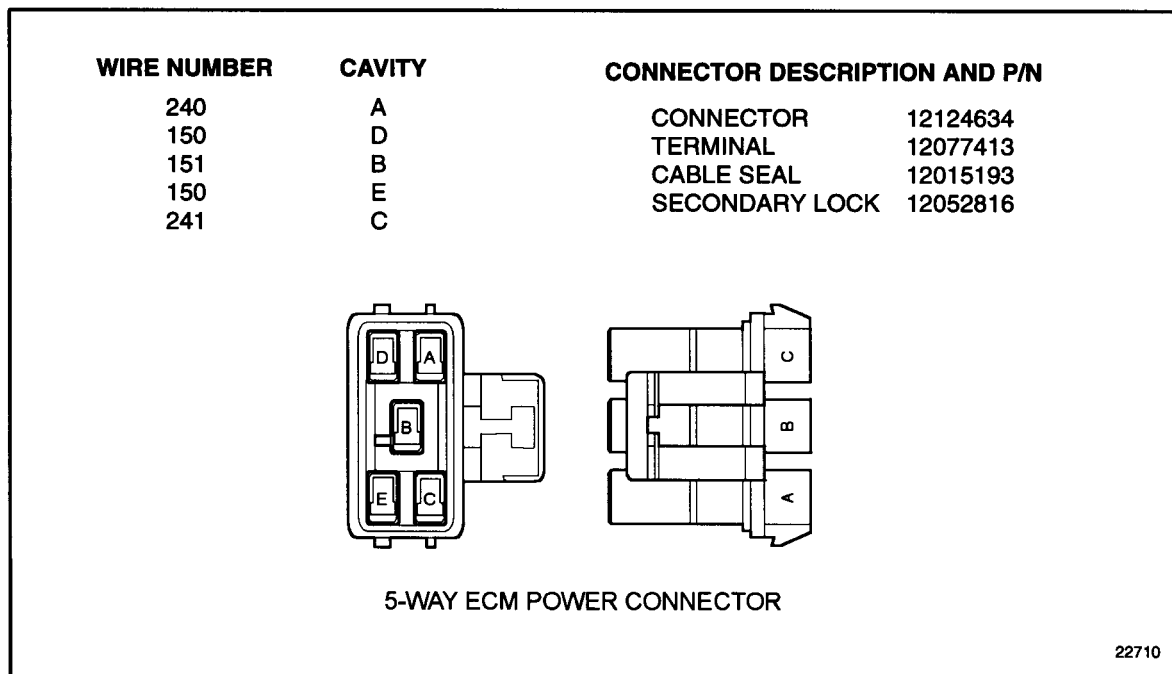

Figure 54-4 5-Way ECM Power Connector
2. Measure voltage at the ECM vehicle harness connector between socket E3 (#557) and a good ground. Also measure voltage between socket E2 (#556) and a good ground. See Figure 54-4.